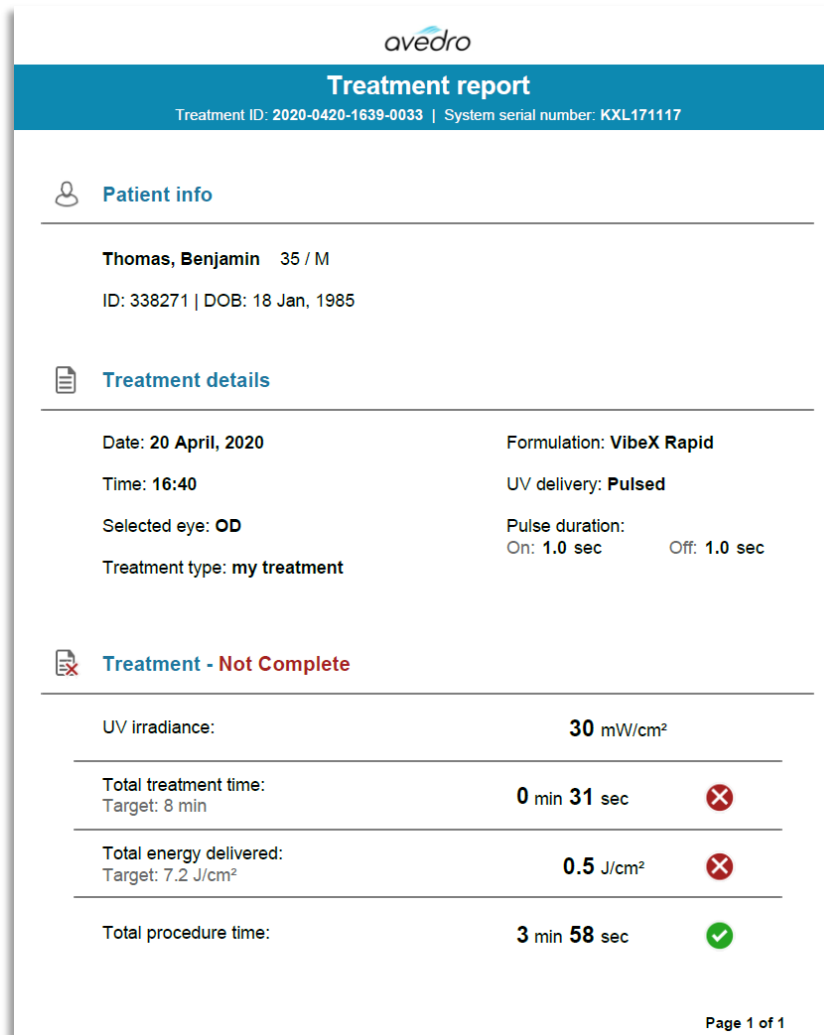

Figure 3-36. Sample Treatment Report
- A treatment report is generated containing patient information, treatment details, photos taken throughout treatment, and notes. A sample report is shown in Figure 3-36.